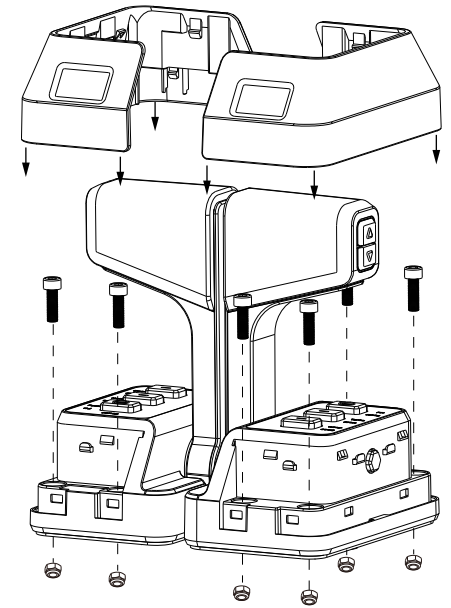

Figure 3-8
3. Align the dual-throttle with the eight holes, and pay attention to the installation direction. Install the two throttles and tighten the bolts (figure 3-8).